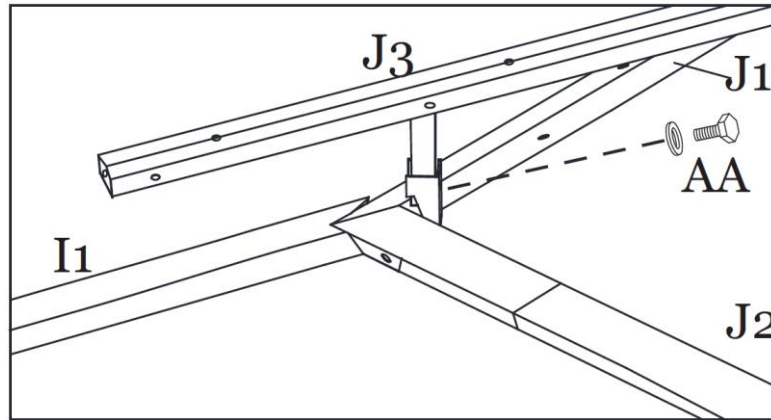

Figure 12-1
Step 12: Secure the Roof Vent Frame to the Main Roof Center Frame by inserting the Roof Vent Corner Supports (J3) into the posts on the Short Connector (J1) of the Main Roof Center Frame and attach using Bolts/Washers (AA). Repeat for remaining corners. **Tighten all Bolts.** See Figure 12-1 and 12-2.